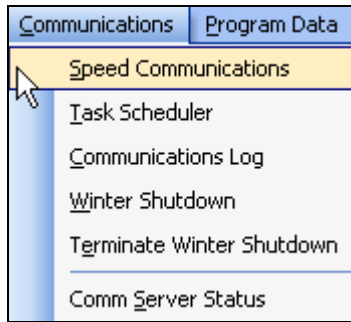

Figure 16.9.1C
1. In the toolbar at the top of the screen select **Communications** then scroll down to **Speed Communications** and click on it (Figure 16.9.1C).